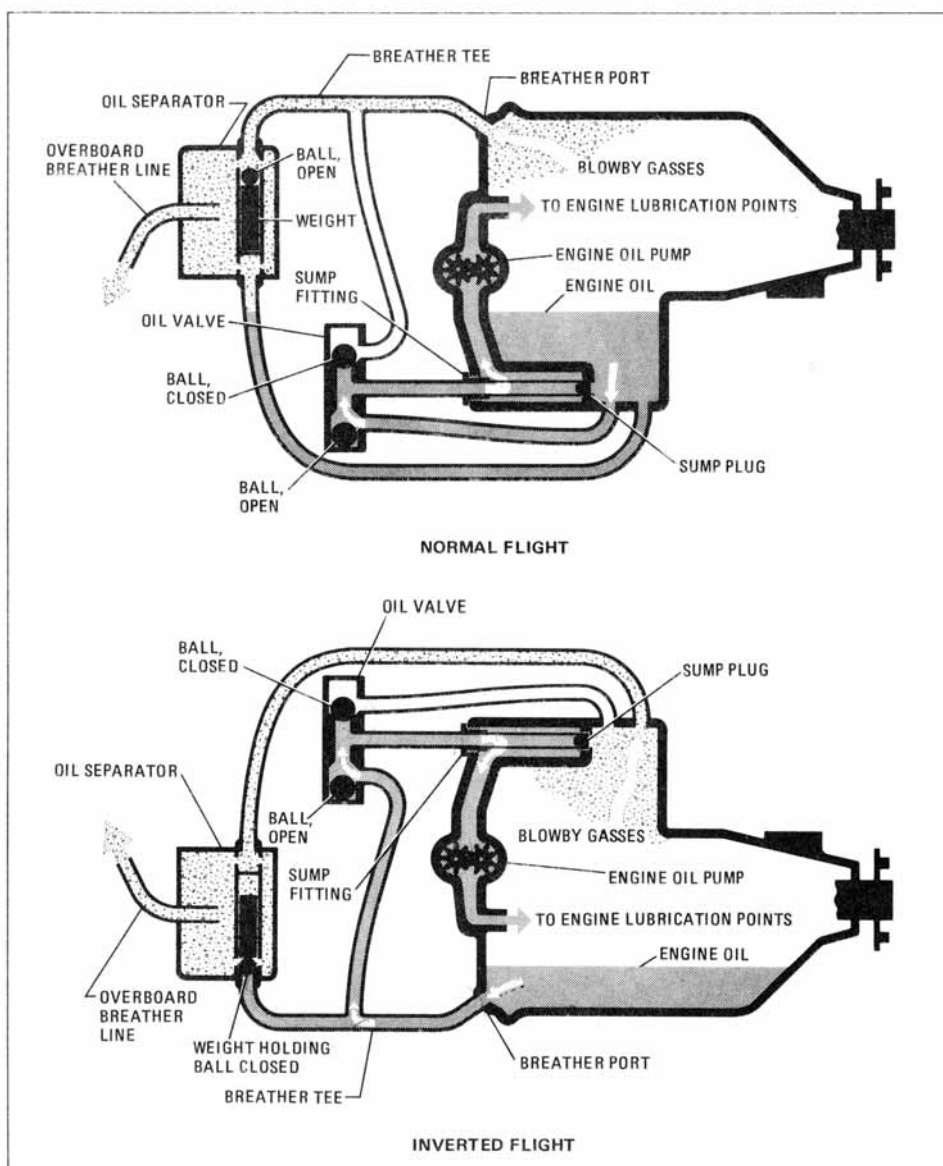

Figure 2-2. Schematic Section thru AEIO-580 Engine Showing Oil Circulation During Normal and Inverted Flight
- b. Connect oil and fuel supply lines and any reporting devices, sensors, and senders per the airframe manufacturer's instructions. Refer to Figures 2-2 and 2-3 for connection locations.